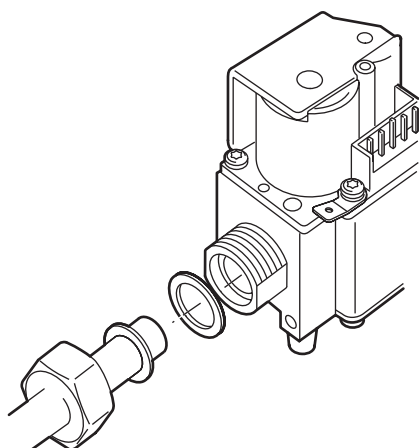

Fig. 4. External thread connection with nut and "O"-ring
④ With $\frac{3}{4}$ " nut and "O"-ring (see fig. 4.)